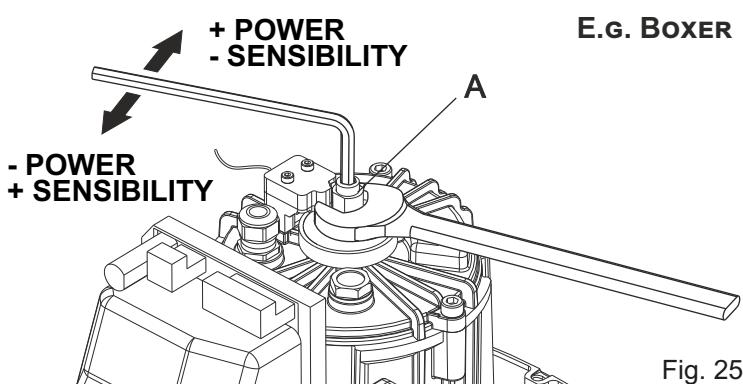

Fig. 25
- 9.2. In order to adjust the clutch, act on the grub screw "A" (Fig. 25) as follows: